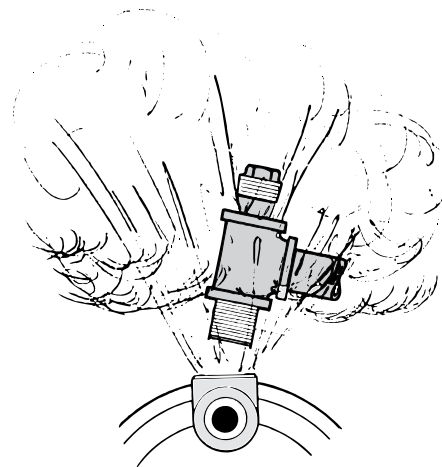

Figure 5: Do Not Run Pump With Outlet Shut Off
**WARNING** NEVER run pump against closed discharge. To do so can boil water inside pump, causing hazardous pressure in unit, risk of explosion and possibly scalding persons handling pump (Fig. 5). Replace priming plug with pressure gauge to monitor pressure so that it is not allowed to exceed maximum pumping pressures according to performance chart.